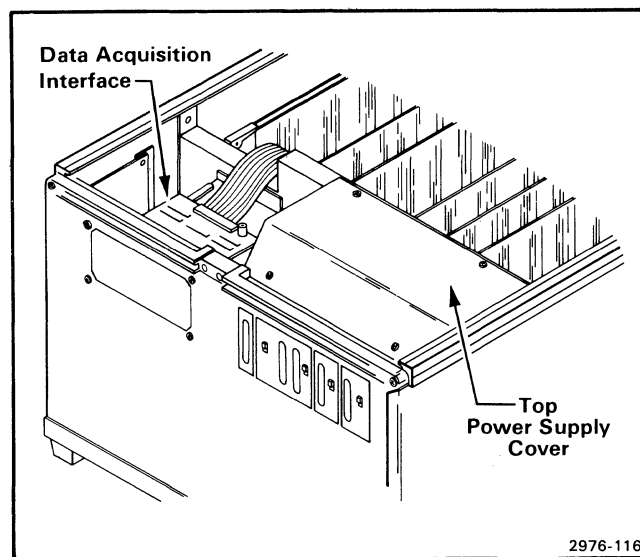

Fig. 8-5. 8301 with top cover removed.
2. The optional Data Acquisition Interface board (DAIB) is shown in Fig. 8-5. It is held to the 8301 back panel by four screws. If this option is installed, locate and remove the DAIB. When removing the ribbon cable and connector attached to the DAIB, handle it carefully to avoid damaging the cable connecting to the Real Time Trace board (RTT).
4. Locate and remove the power supply cover shown in Fig. 8-5. It is held by four screws. All three power supplies are now visible. The  $-/+12$  Vdc supplies are mounted together, against the rear of the card cage. The  $+5$  Vdc unit is mounted on the bottom of the chassis.
7. Remove the power supply cover shown in Fig. 8-5.
13. Slowly increase the variac from 0 Vac to 120(233) Vac. At 120(233) Vac the DMM when connected to the 12 Vdc supplies should indicate a magnitude of 9 Vdc (or more), with the appropriate polarity. The DMM when connected to the +5 Vdc supply should indicate at least +4 Vdc.